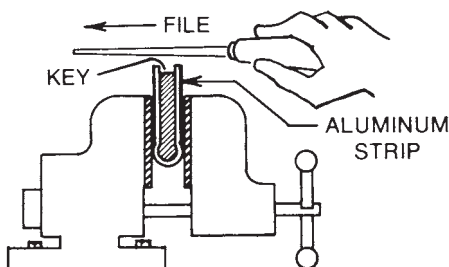

Figure 4.9 File into the aluminum strip in the direction shown.
2. Wrap a strip of aluminum approximately $1\frac{1}{2}$ inches \times $2\frac{1}{4}$ inches or $2\frac{1}{2}$ inches around the pin and bit of the original key with one edge against the collar (Fig. 4.9).